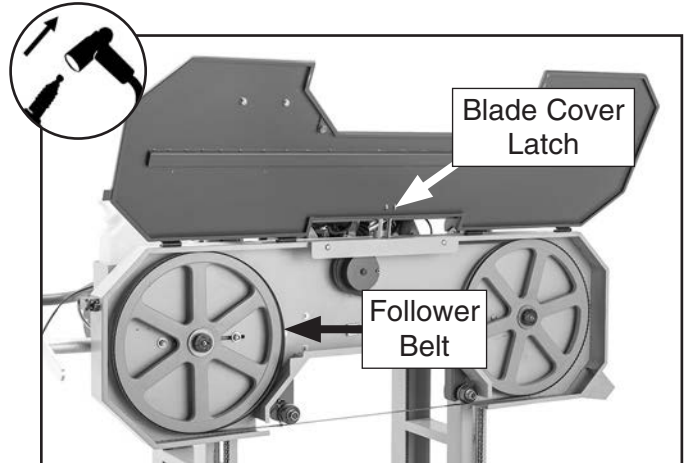

Figure 73. Blade cover supported by blade cover latch and location of follower belt.
- Open blade cover and secure to blade cover latch (see **Figure 73**).
- Lift follower belt off left wheel (see **Figure 73**), and install new belt in its place.